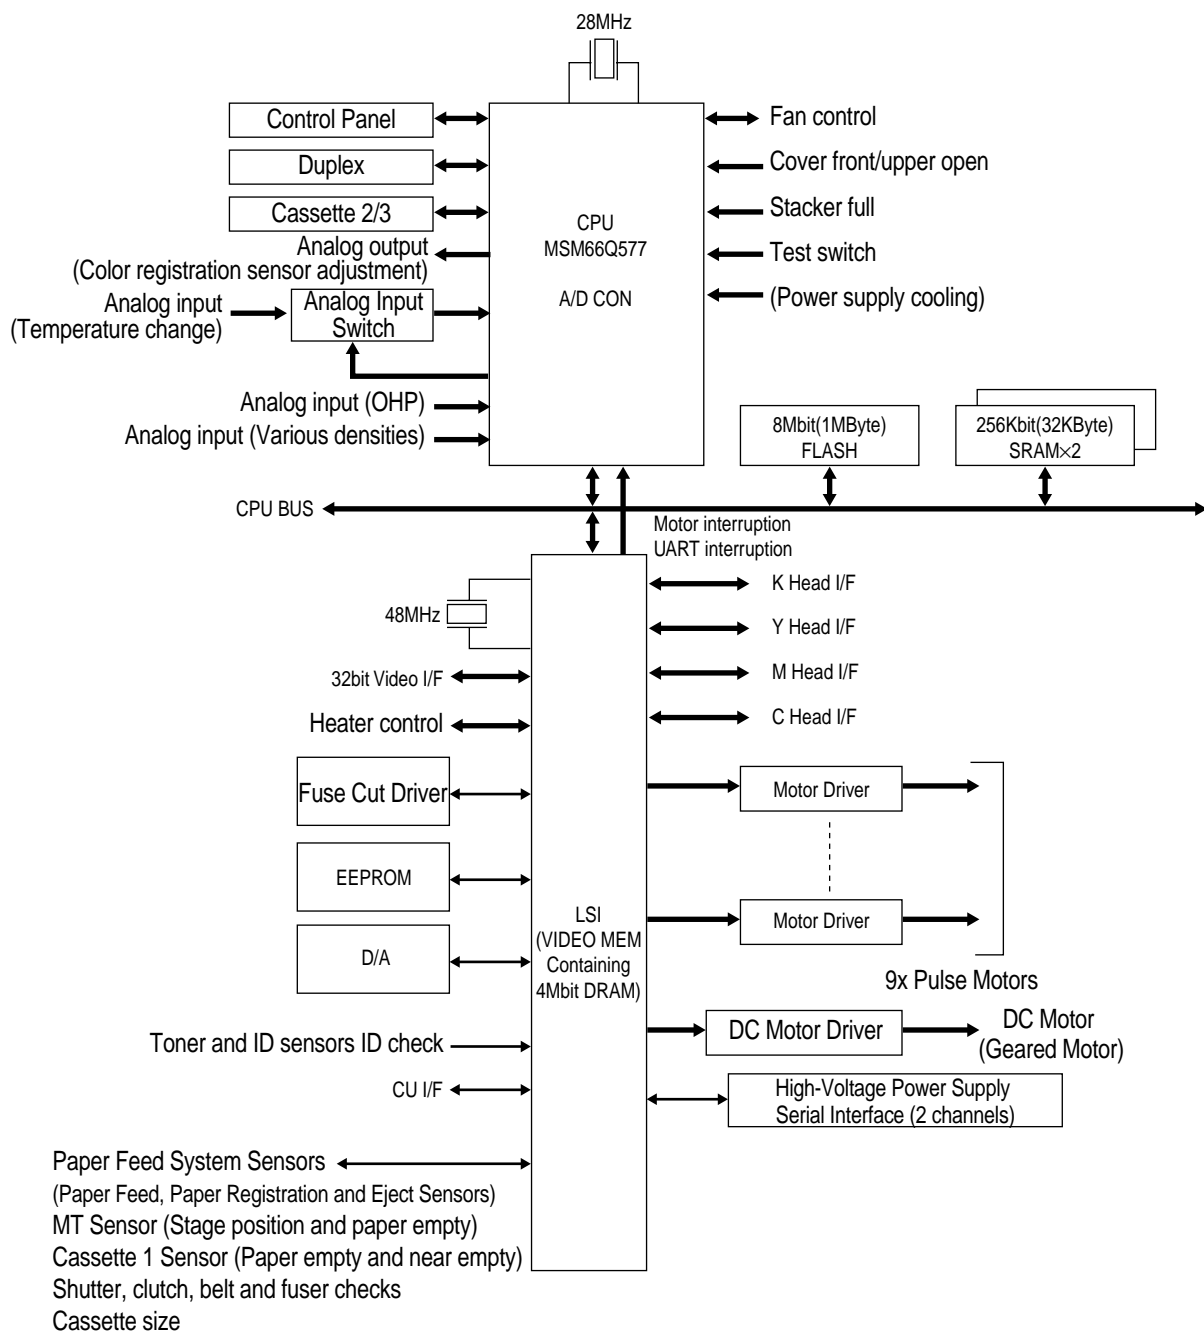

Figure 2.3
The engine control block (PU) is controlled by the engine control board (K73 PWB) which consists of a CPU (MSM66Q577), general LSI chip, flash ROM, EEPROM, pulse motor drivers, and video memory (see Figure 2.3).
- (1) CPU